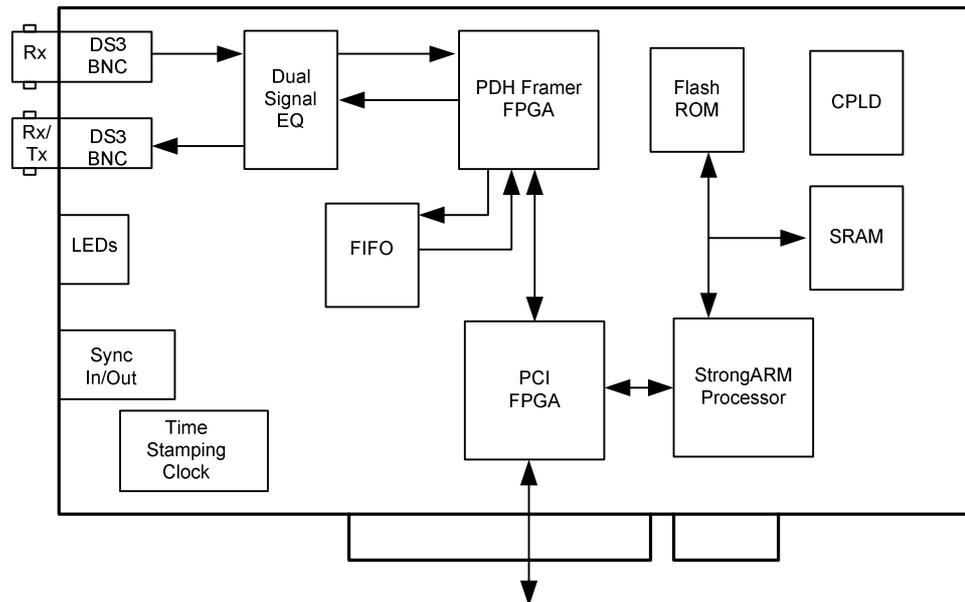

Figure 1-2. DAG 3.6D Card Major Components and Process Flow.
**Figure** Figure 1-2 shows the DAG 3.6D card major components and process flow.